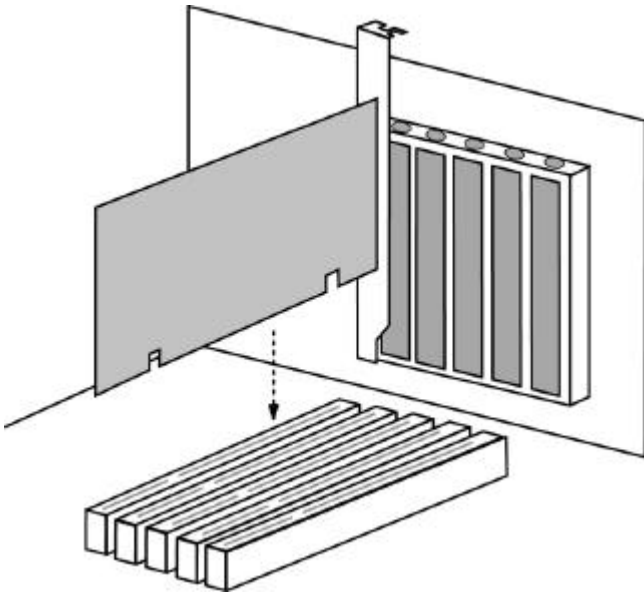

Figure 1
Installing the Ultra100 TX2 controller card in a system is a simple process. The card fits into any available 32-bit PCI slot (must be PCI 2.1 or 2.2 compliant), or the 32-bit portion of 64-bit PCI slot on the system's motherboard (see Figure 1 below).
3. Install the Ultra100 TX2 controller card into the open slot (see Figure 1 below).
5. Fasten the controller card bracket to the system case (see Figure 1).